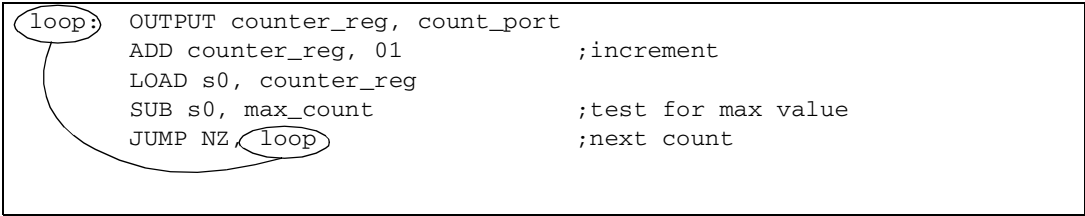

Figure 58: Line Label Example
**Line Labels.** A label used to identify a program line for reference in a JUMP or CALL instruction should be followed by a colon (:). **Figure 58** shows the use of a label to identify a program line and its use later in a JUMP instruction.